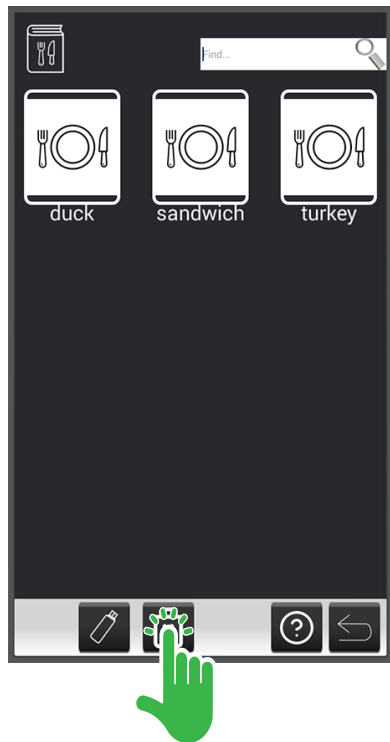

Fig. 39
3. From the **Recipe Selection Screen** (Fig. 39), touch the trash button.